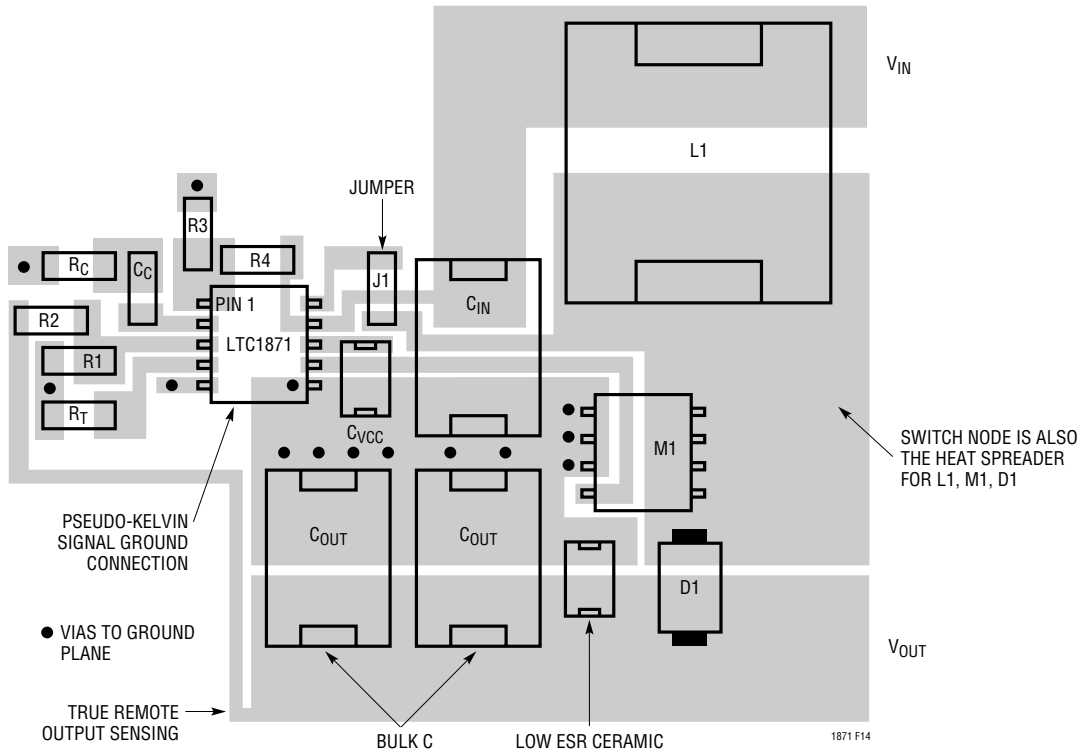

Figure 14. LTC1871 Boost Converter Suggested Layout
- Place the small-signal components away from high frequency switching nodes. In the layout shown in Figure 14, all of the small-signal components have been placed on one side of the IC and all of the power components have been placed on the other. This also allows the use of a pseudo-Kelvin connection for the signal ground, where high  $di/dt$  gate driver currents flow out of the IC ground pin in one direction (to the bottom plate of the  $INTV_{CC}$  decoupling capacitor) and small-signal currents flow in the other direction.